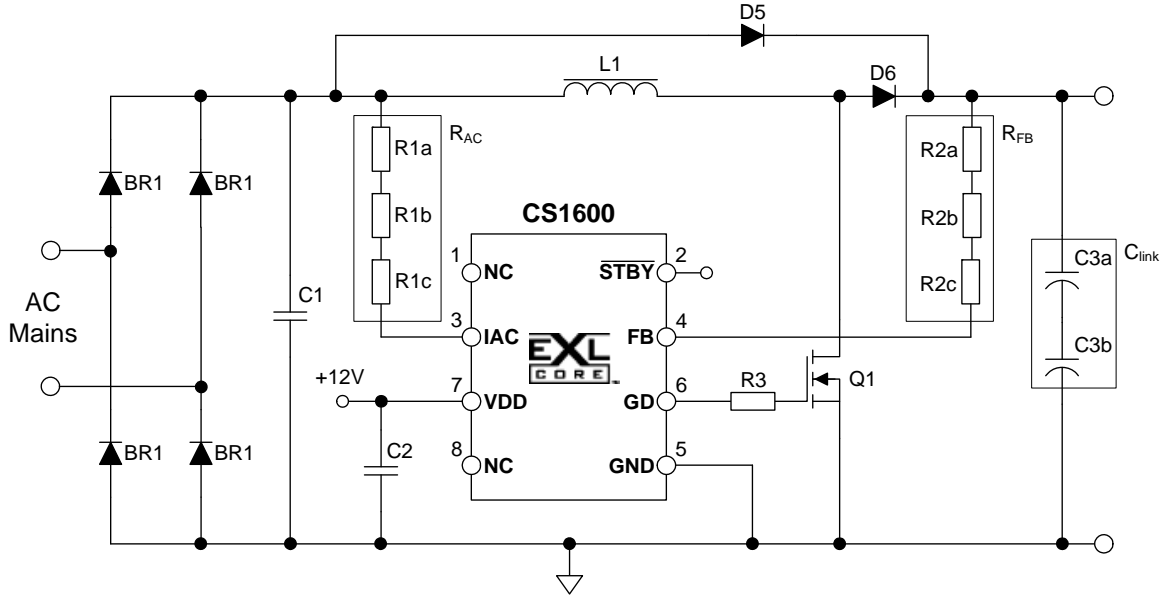

Figure 17. CS1600 Basic Application Circuit
5.2 Bill of Materials (for Application Example shown in Figure 17)